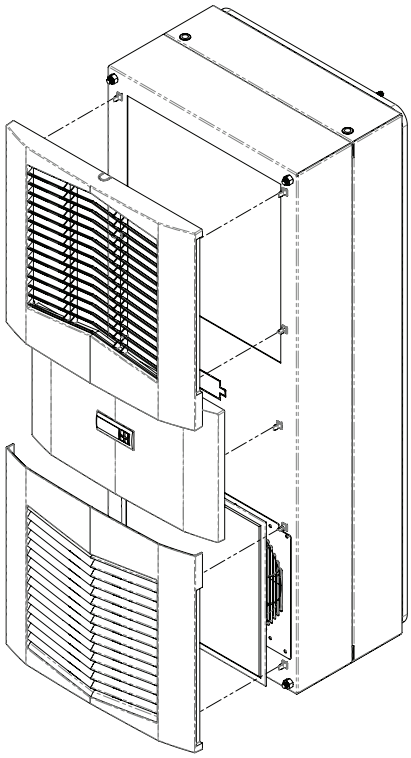

Figure 3
1. Carefully remove the louvered grille, and where applicable, remove the center panel from the enclosure by pulling forwards. See Figure 3 on page 9.